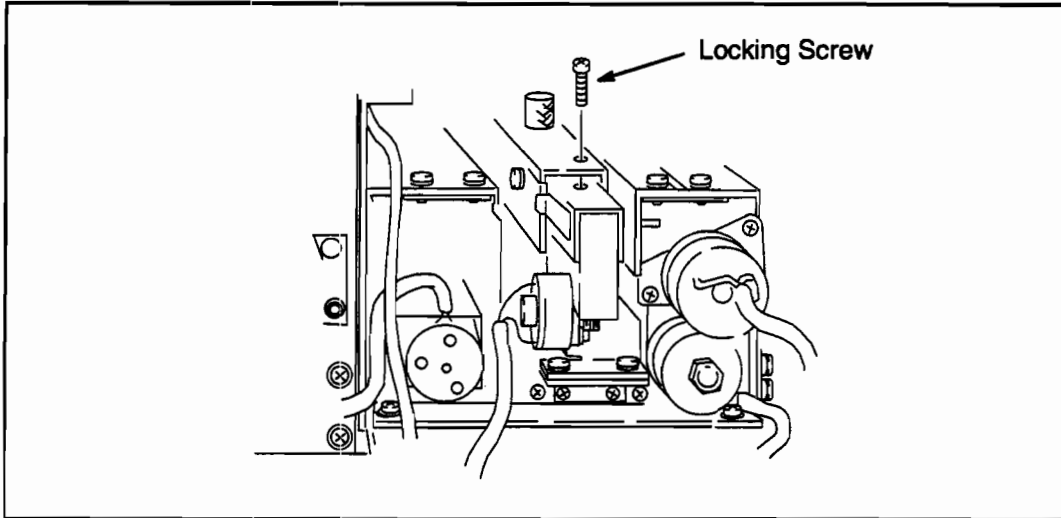

Figure 3-2. "Y" Cutter Lock (Model 250/255 Only)
4. Use a small Phillips screwdriver to remove the locking screw. See Figure 3-2.